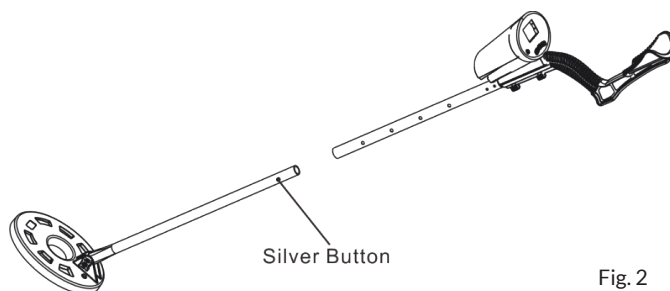

Fig. 2
2. Press down the silver shrapnel on the plastic stem, and insert it to the black aluminum stem. When the silver shrapnel popping up from the black aluminum stem, you can use it. The black aluminum stem is with four holes, for you to adjust the length of the connecting rod, so that you can comfortably erect and straighten your arms, and keep the search coil be away from the ground about 1/2 inch. See Fig.2 , 3.